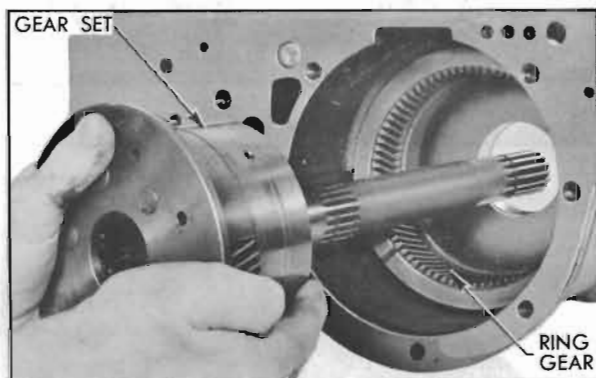

Figure 5-38—Removing Planetary Gear Set
1. Remove planetary gear set through front of case. See figure 5-38.